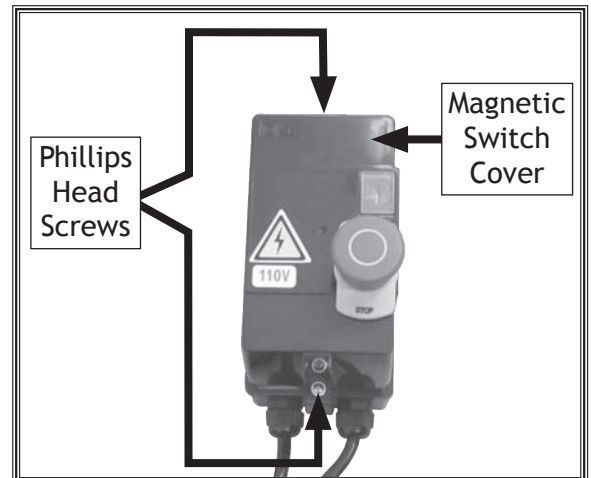

Figure 29. Magnetic switch cover.
30. Loosen (2) Phillips head screws and remove magnetic switch cover (see **Figure 29**).